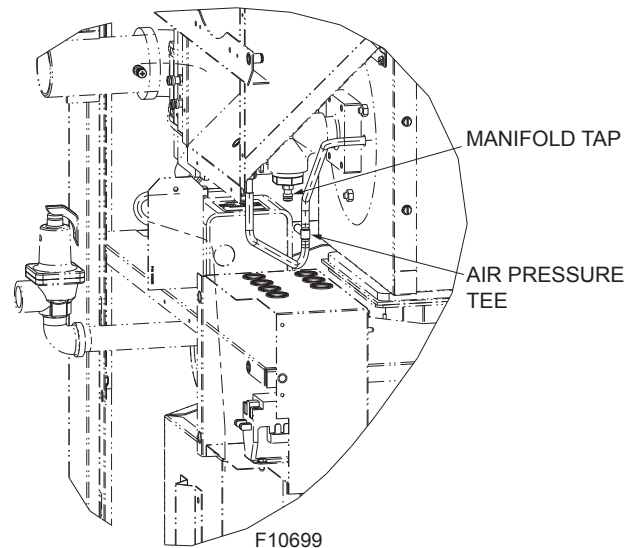

Figure 44. Air Pressure Tee
3. Attach (1) 12" scale manometer on the fan suction pressure hose. Pull black cap from the air pressure tee as shown in **Figure 44** and connect the manometer. NOTE: Retain caps for re-installation later.
1. Check blower suction using the manometer attached to the air pressure tee as shown in **Figure 44**, with the heater firing at 100% input. The reading should be as noted in **Table T** for both natural and propane gas.